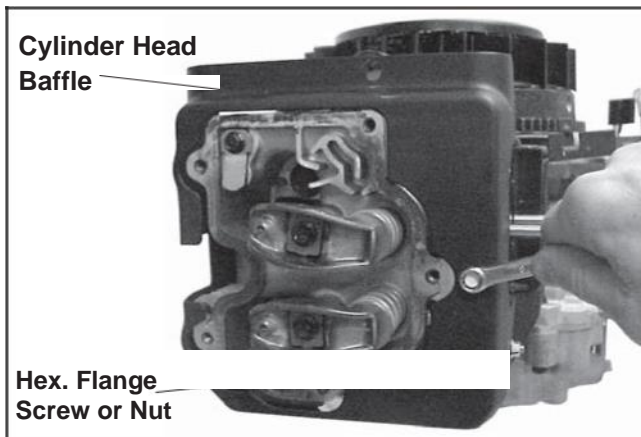

Figure 11-52. Installing Cylinder Head Baffle.
4. Install the cylinder head baffle and secure with the two hex. flange screws. Later production models use one screw and one hex. flange nut. See Figure 11-52.